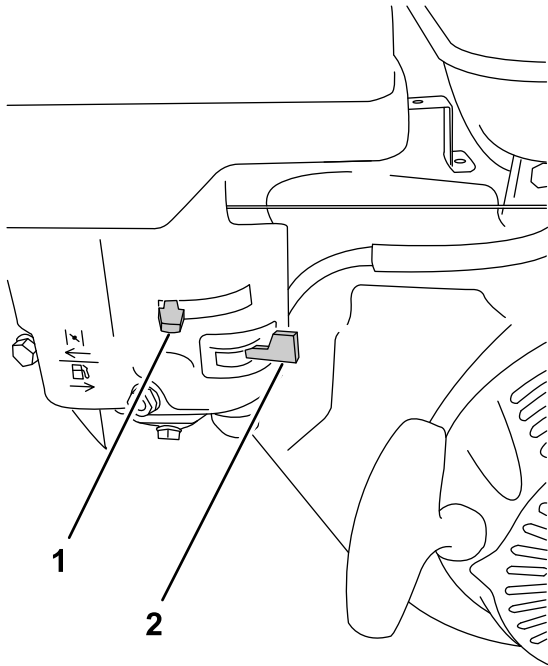

Figure 13
1. Move the fuel-shutoff valve to the OPEN position (Figure 13).
3. Position the choke lever as follows (Figure 13):